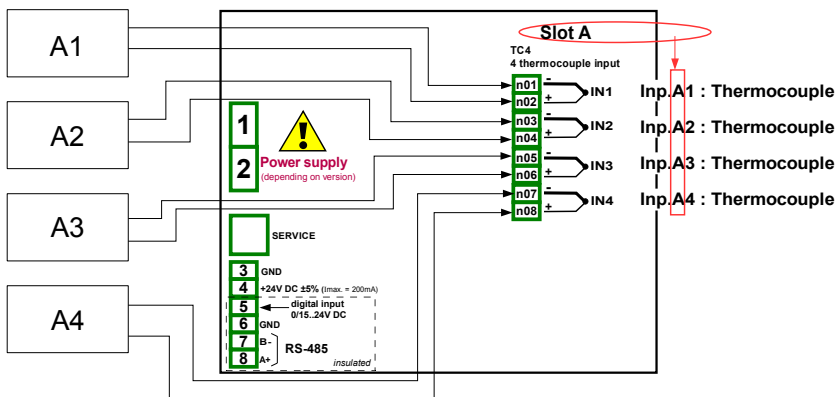

Fig. 7.53. Schematic diagram for the **TC4** module
Before measuring temperature the thermocouple sensors should be connected to the device. An example of how the connection is shown in Fig. 7.53 (see also **Appendix 8.4TC4, TC8 – THERMOCOUPLE SENSOR MEASUREMENT MODULES**).
- choose as the source - **Inp. A1: Thermocouple** (see the connection in Fig. 7.53), press the **Source configuration** button to set the source configuration options,